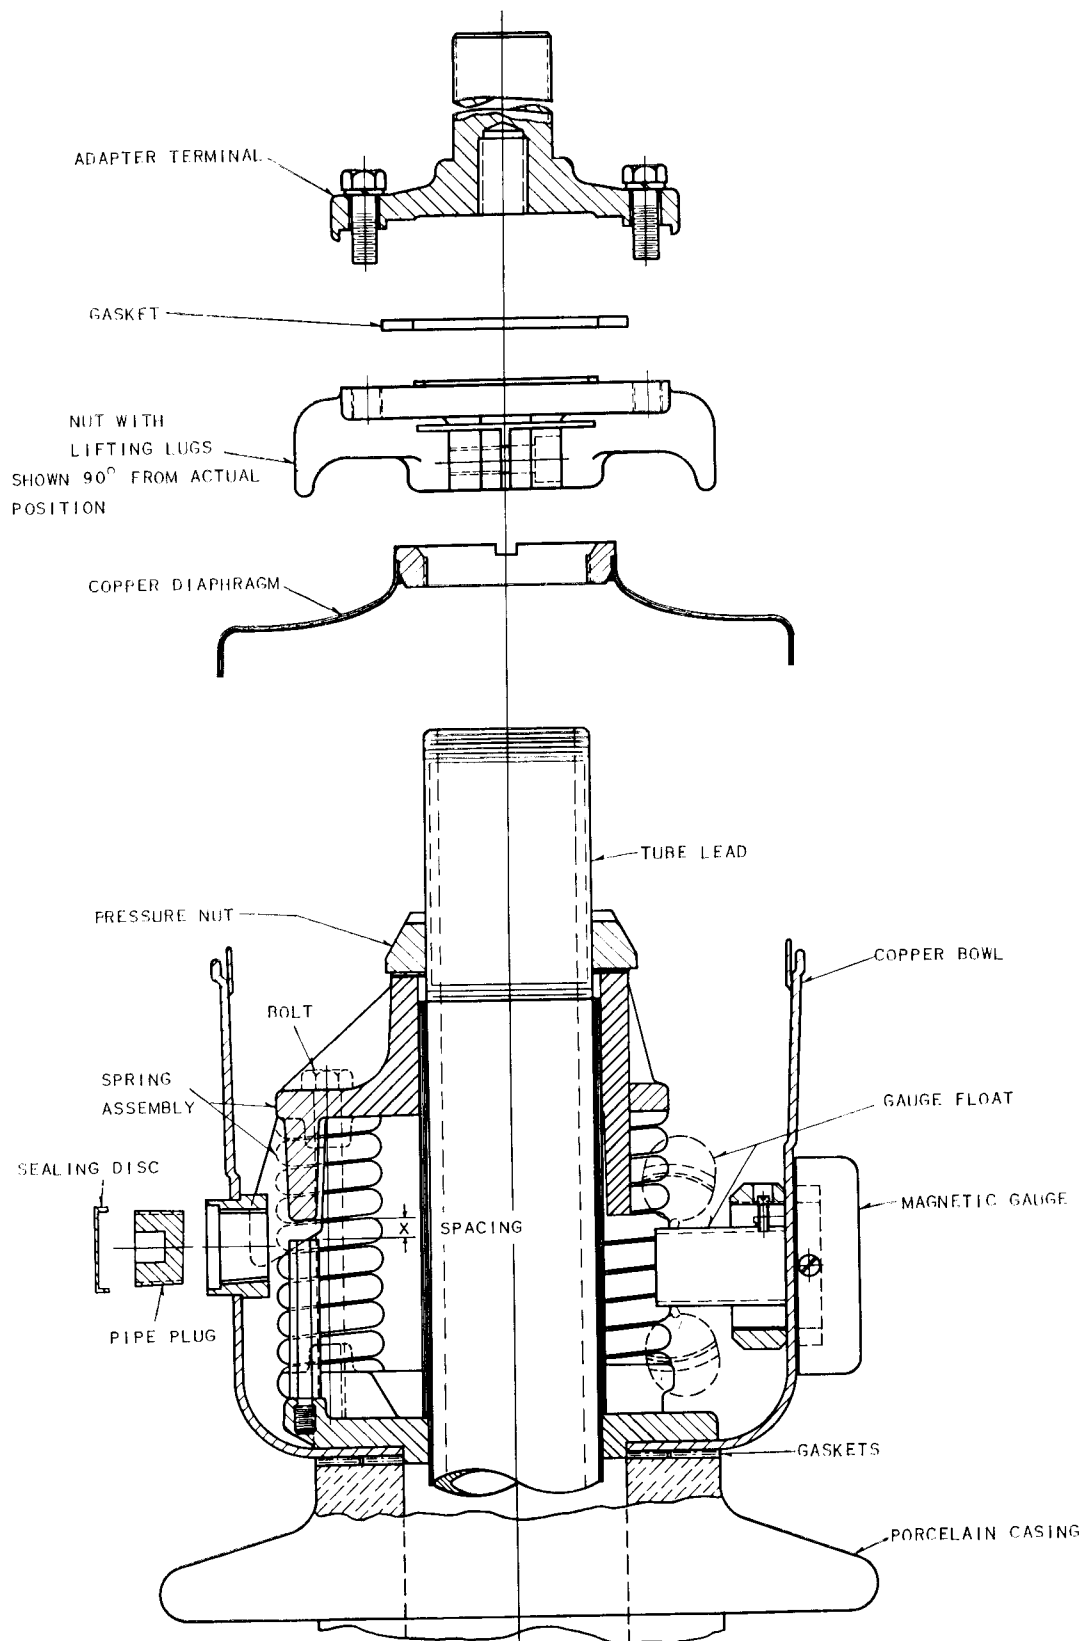

FIG. 7. Sectional View—Bushing Expansion Bowl
4. After removing the adapter cap, unsolder joints at lifting lug, copper tube and diaphragm shown in Fig. 7.
5. For bushings with copper expansion bowl—(see Fig. 7), after copper diaphragm is removed insert bolts and tighten to compress springs. Unscrew pressure nut, remove gauge float, and take spring assembly from cap.
7. Adjust bolts on cap spring to give approximately $\frac{1}{8}$ " less than measured between gauge rods (x-spacing) before dismantling the bushing. Place the cap in position and tighten with pressure nut (Fig. 7). Remove bolts on spring assembly. It may be necessary to repeat the operation of clamping the springs and adjusting pressure nuts to obtain the desired setting on the gauge rods. Contact your Westinghouse representative if there are any questions about setting of gauge rods or compressing springs.
8. Solder joints at lifting nut, diaphragm, etc., as shown in either Fig. 7 to seal cap.
The expansion bowls are constructed as shown in Fig. 7. All joints are either soldered, brazed, or welded. Heating of parts is prevented by use of non-magnetic materials and insulating against short circuiting paths in the magnetic field.